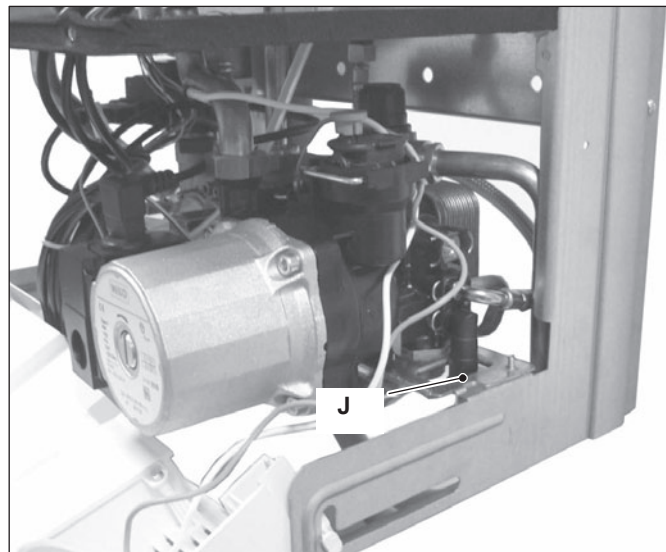

Figure 2.8
- Open the drain tap J (Figure 2.8) until the boiler is completely emptied.